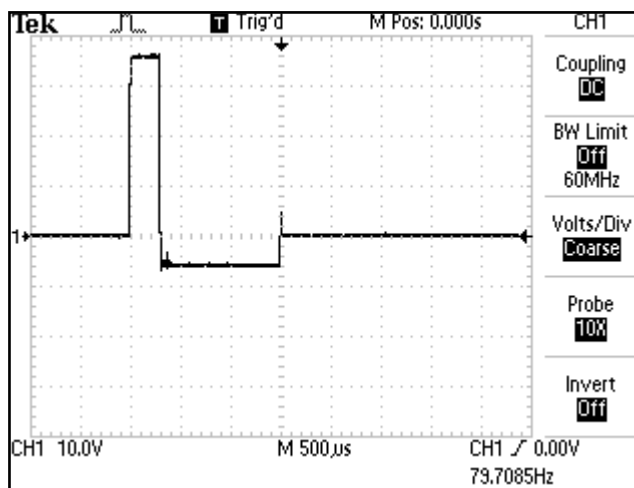

FIGURE 4.3
B. TENS- Asymmetrical Biphasic- Figure 4.3